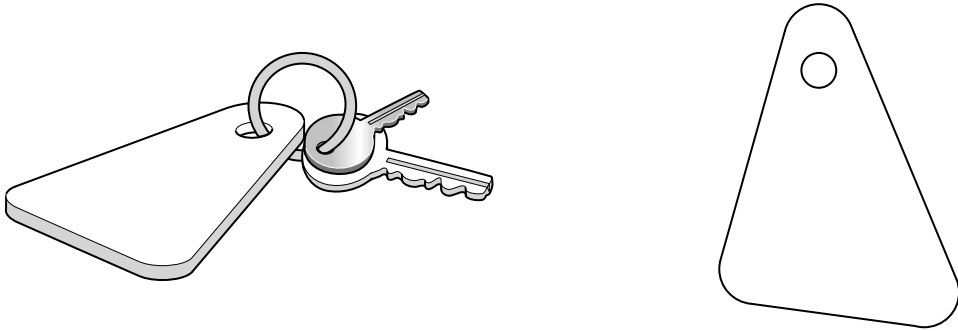

Fig. 5
- 10 (a) A key tag with keys and the key tag shape are shown in Fig. 5.